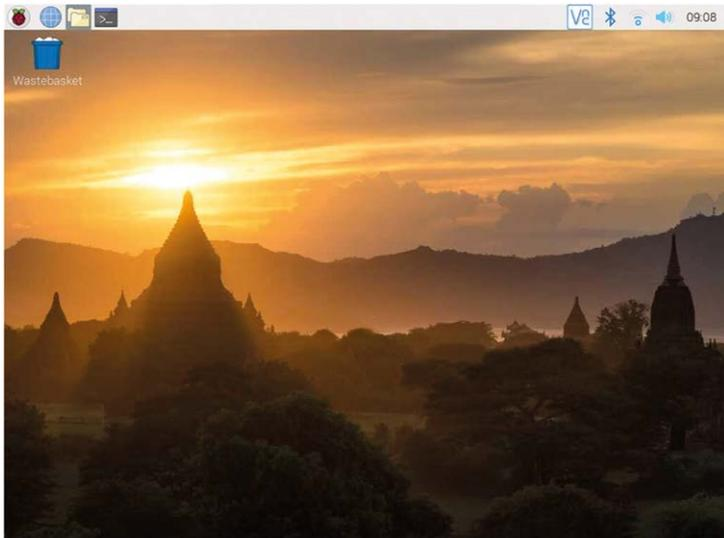

Figure 3.6 Raspberry Pi 4 desktop
- You should now be ready to use your Raspberry Pi 4 (see Desktop in Figure 3.6)